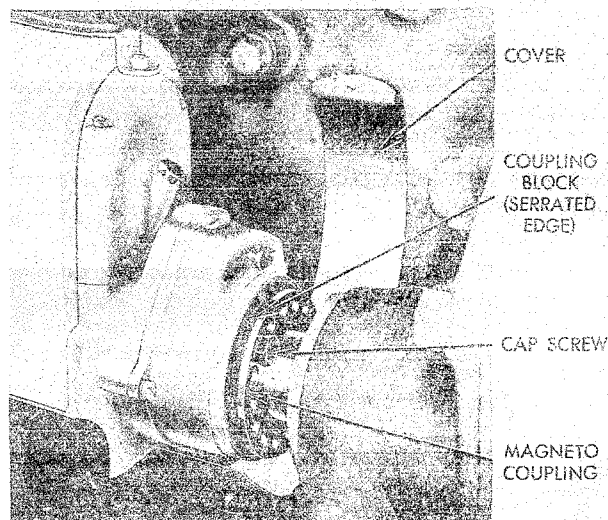

Figure 79G. Installing the Magneto
(1) Remove the bolt in the magneto drive cover. Take off the ground switch cable by removing the fillister-head screw and lock washer attaching the cable to the magneto terminal.
(2) Pull the spark plug cables from the sockets in the distributor cap.
(3) Remove the cap screws that hold the magneto coupling and coupling block together, Fig. 79G.
(4) Remove the cap screws and washers holding the magneto to the bracket. Remove the magneto assembly from the bracket.
(8) With the magneto in this position, locate the two holes in the adjustment coupling that align. Insert the shims between the two halves of the coupling so the cap screws will pass through the holes in the shims and enter the holes in the tapped half of the adjustment coupling, Fig. 79G.